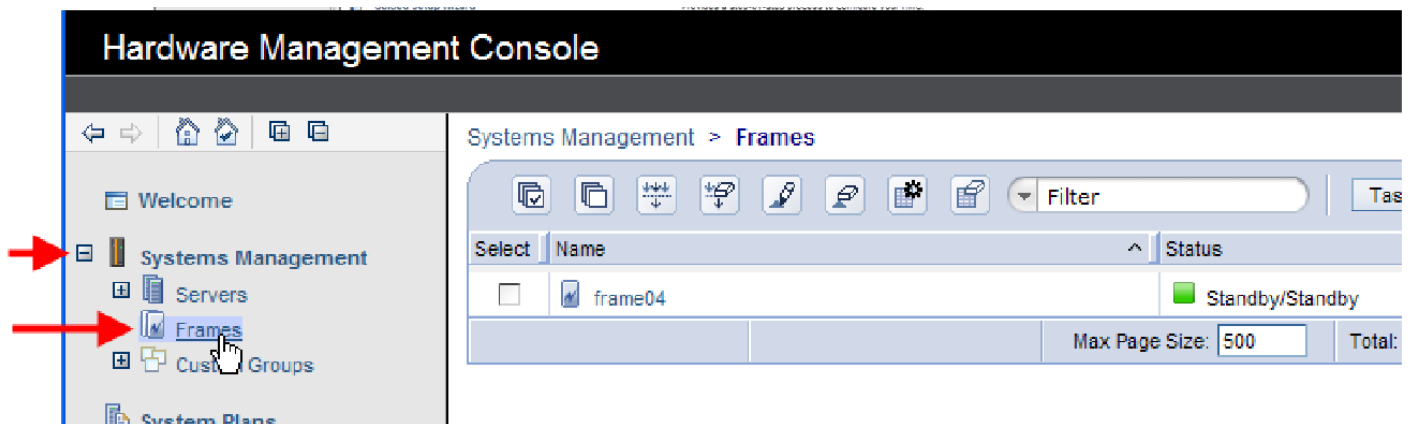

Figure 10 HMC Frames
3. In the HMC navigation pane, expand 'Systems Management' + sign and then click 'Frames' (see Figure 10 HMC Frames)